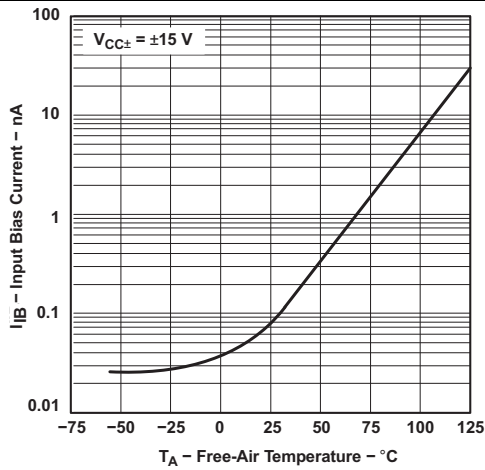

Figure 1. Input Bias Current vs Free-Air Temperature
- (1) All characteristics are measured under open-loop conditions with zero common-mode voltage, unless otherwise specified.
- (2) $T_A = -40^\circ\text{C to } 85^\circ\text{C}$.
- (3) Input bias currents of an FET-input operational amplifier are normal junction reverse currents, which are temperature sensitive, as shown in Figure 1. Pulse techniques must be used that maintain the junction temperature as close to the ambient temperature as possible.
- (1) Input bias currents of an FET-input operational amplifier are normal junction reverse currents, which are temperature sensitive, as shown in Figure 1. Pulse techniques that maintain the junction temperature as close to the ambient temperature as possible must be used.
- (2) All characteristics are measured under open-loop conditions with zero common-mode voltage, unless otherwise specified. Full range is $T_A = -55^\circ\text{C}$ to $+125^\circ\text{C}$.